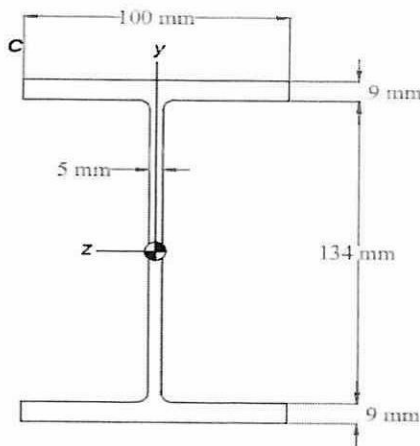

Figure Q4.1
- Q4** (a) A long, slender structural aluminum [ $E = 70 \text{ GPa}$ ] flanged shape given in **Figure Q4.1** is used as a 7- m-long column. The column is pinned at ends A and C. Lateral support is provided to the column so that deflection in the  $x-z$  plane is restrained at mid-height B. However, the column is free to deflect in the  $x-y$  plane at B (see **Figure Q4.2**). Determine the maximum compressive load  $P$  the column can support if a factor of safety of 2.5 is required. In your analysis, consider the possibility that buckling could occur about either the strong axis (i.e., the  $z$  axis) or the weak axis (i.e., the  $y$  axis) of the aluminum column.